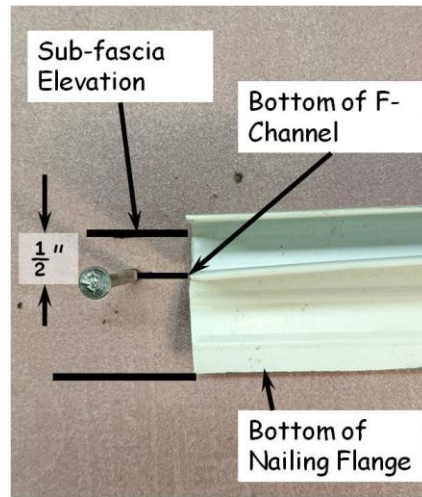

Figure 11-2. F-Channel Location.
- a. Carefully measure the height of the F-channel. Measure down from the top mark the overall height of the F-channel, and make a mark. This will be the **bottom of the F-channel nailing flange** (see Figure 11-2).